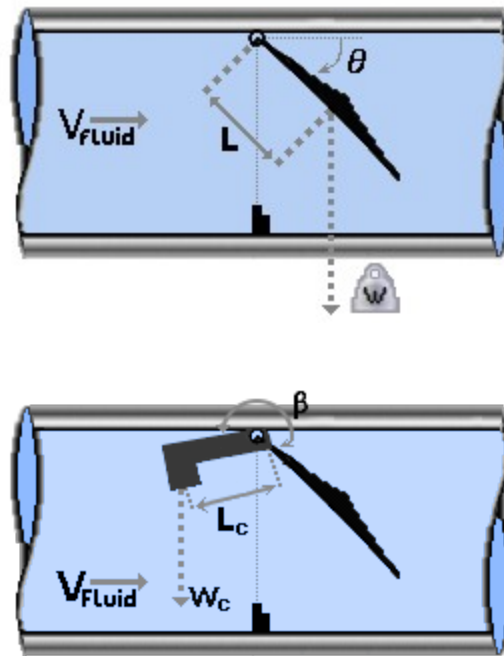

Figure 1: Swing Check valve diagram and optional Counterweight diagram
The Swing Check Valve model uses a torque balance to estimate rate and position over time for a swing check valve. The inputs for the swing check valve are as follows (reference Figure 1):
- **Distance to CG (L)** - The distance from the pivot point to the disk assembly center of gravity.
- **Area (A)** - The surface area of the disk.
- **Inertia (I)** - The moment of inertia of the disk about the pivot point. If you do not know this value for the check valve you are trying to model, refer to the Approximating Disk Inertia for the Swing Check Valve section.
- **Lever Angle (β)** - The angle of the lever relative to the disk assembly about the pivot point. A positive beta denotes an angle counter-clockwise from the disk assembly to the lever (see Figure 1 above).
- **Spring Torque With Valve Closed (T)** - The residual torque exerted by the spring when valve is fully closed. The value is zero if there is no spring torque when the valve is closed.